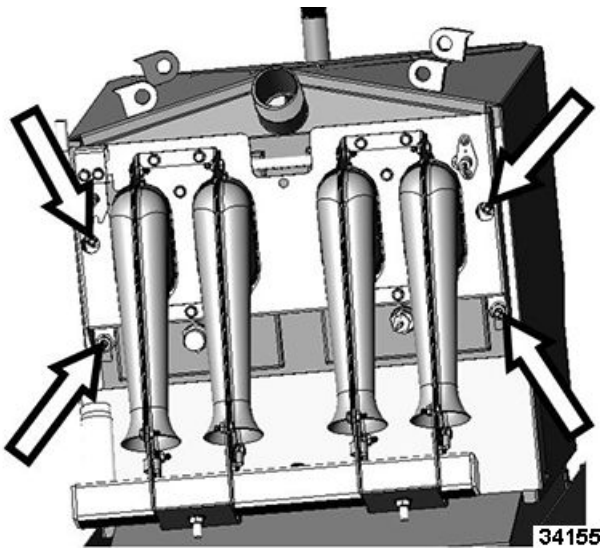

Fig. 103
10. Remove four mounting nuts (Fig. 103) holding burner assembly on tank.